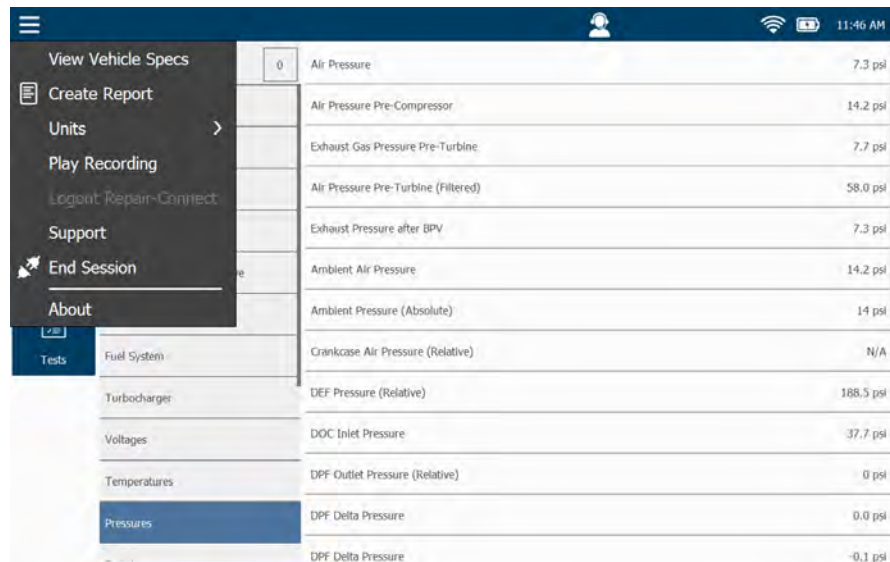

Figure 4.53 Diagnostics Menu
- 4 Touch **Exit** to return to the Diagnostics Menu (Figure 4.53).